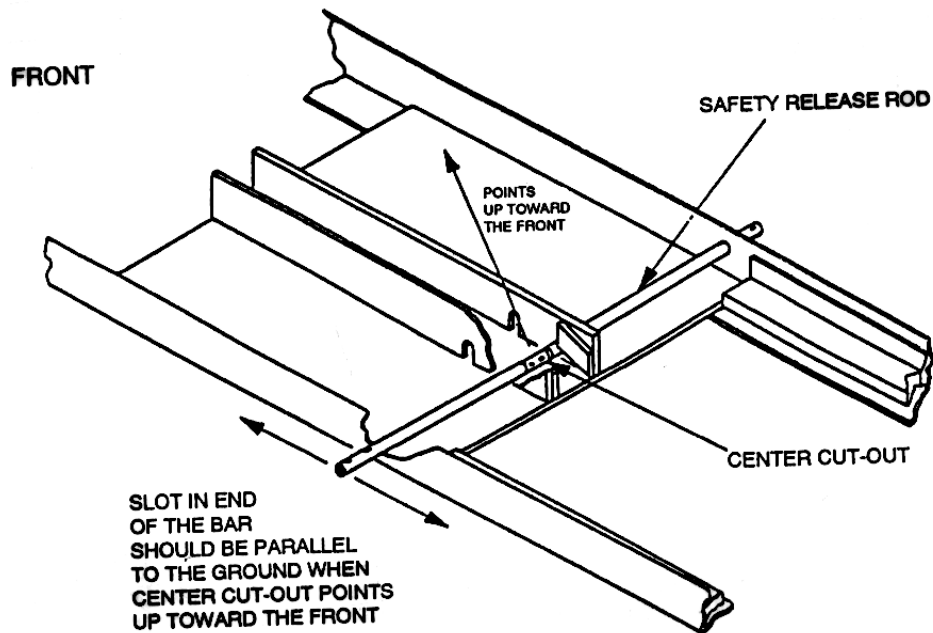

**Figure 5 – Air Line Connections**
3. Assemble the fittings to the front of the left side deck as shown in Figure 5. Connect the 3/8” polytube from the inside of the deck to the fitting assembly.
4. Assemble the fittings to the rear of the right side deck as shown in Figure 5. Connect the 3/8” polytube from the inside of the deck to the fitting assembly.
5. Remove one recoil hose from the accessory box and connect it to the rear fitting assembly as shown in Figure 5. Run the recoil hose under the deck and connect the opposite end to the air line on the scissors using the 3/8”JIC-M x 1/4”NPT-F adapter from the hardware kit.